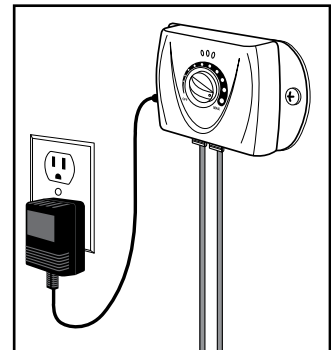

figure 20
- Turn on the Base Transmitter by turning the Boundary Zone knob to the right. You will see the green LED power indicator light up when the system has been turned on. (fig. 20)